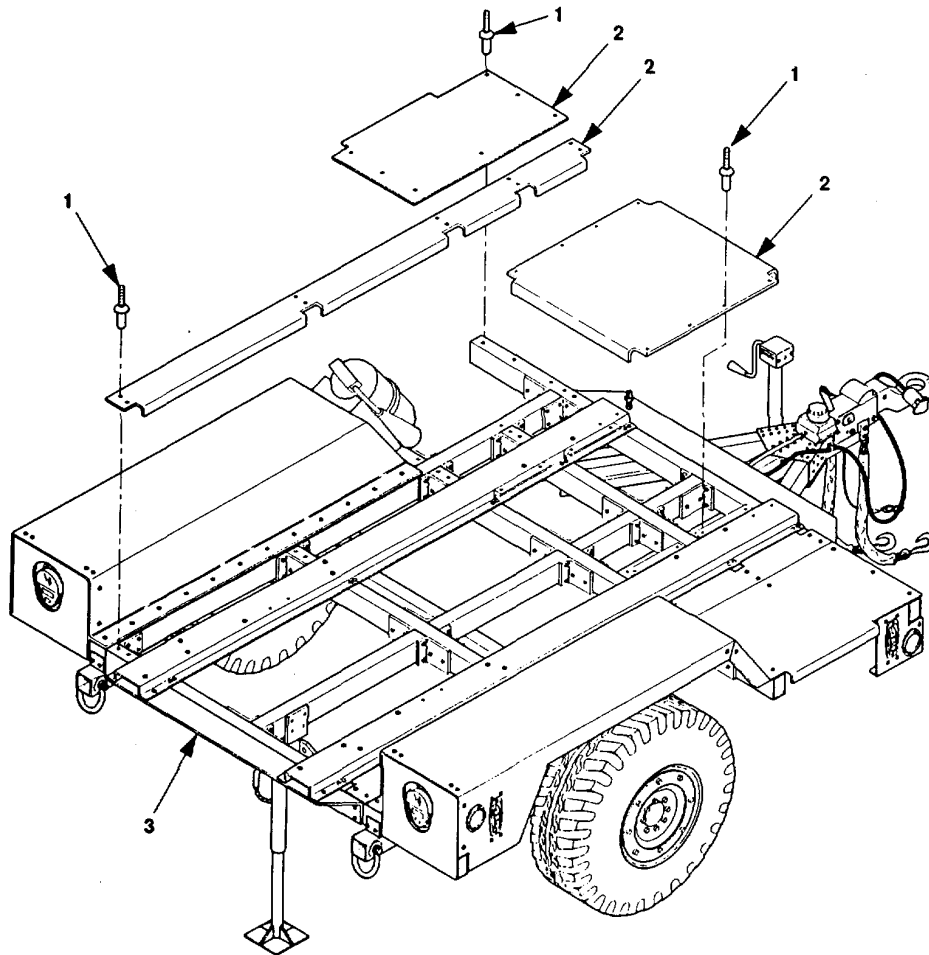

Figure 5-20.1. PU-797A and AN/MJQ-35A Floor Replacement.
Remove rivets (1, figure 5-20.1) and floor sections (2) from trailer chassis (3).
Place floor section (2, figure 5-20.1) on trailer chassis (3) and secure with rivets (1).